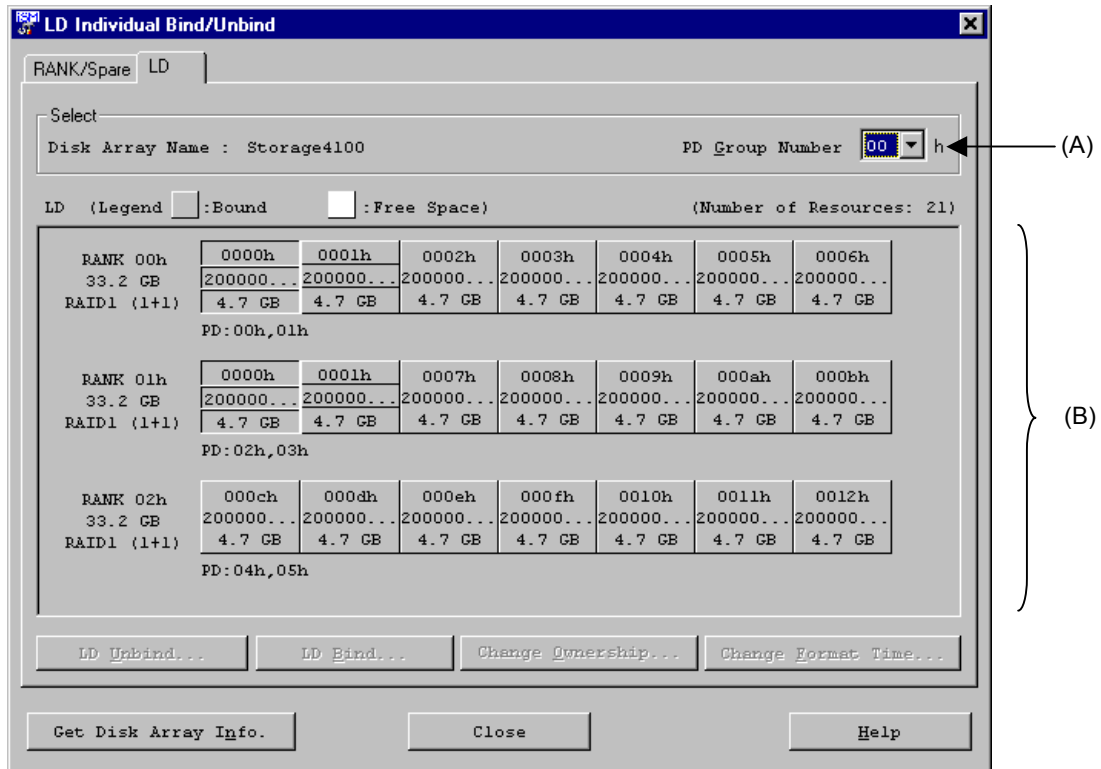

Figure 8-45 LD Screen
The LD screen is shown in Figure 8-45. The encircled alphabets in the screen are described below. To know how to manipulate the screen, refer to (2) “Operation”.